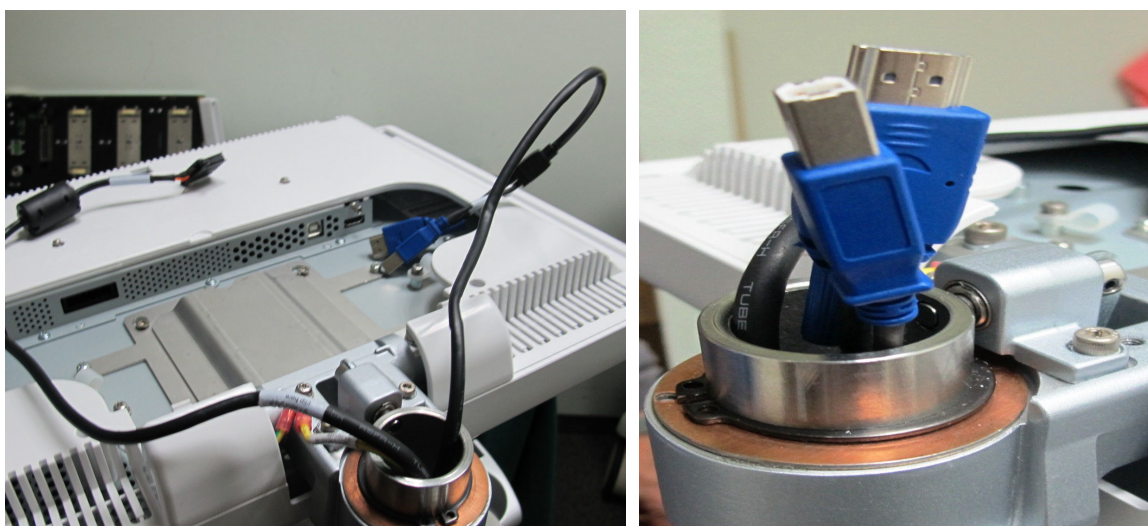

Figure 8-229 Monitor Cables Threaded Through Arm Aperture
- 5.) Thread the blue "double cable lead" to the BIF through the upper articulated arm joint as shown in Figure 8-229 below.